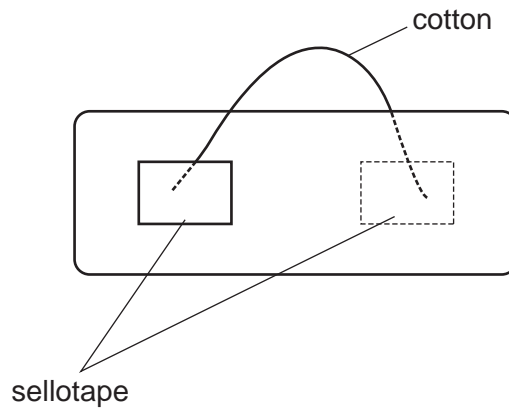

Fig. 1.5
- 1 The magnet and pointer should be suspended from the nylon filament (or cotton thread) by attaching it to a loop of cotton which has been sellotaped to both sides of the magnet, as shown in Fig. 1.5.